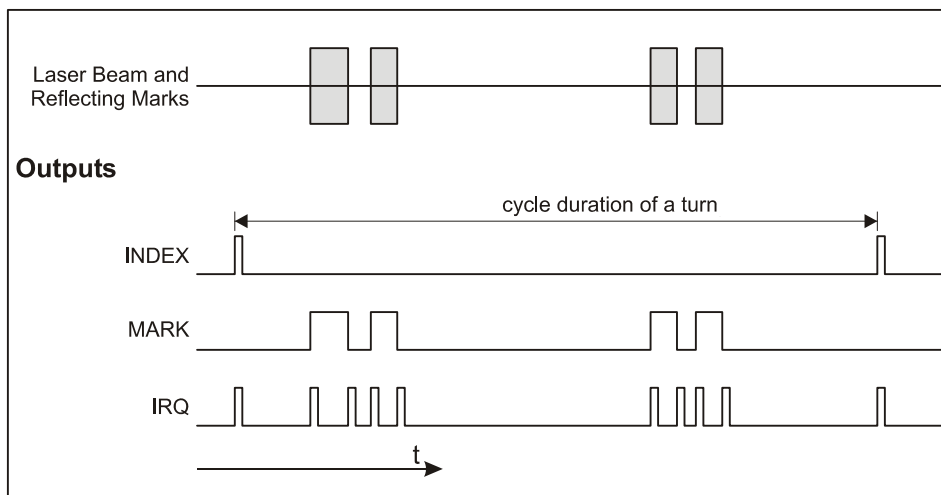

Figure 9 Time diagram 1: Logical levels of the output signals INDEX, MARKE, NULL and IRQ for two groups of reflecting marks during one full turn (over the time)
- INDEX Pulse of a duration of 5 μ s, which is emitted once per revolution (also refer to Figure 9 on page 11).